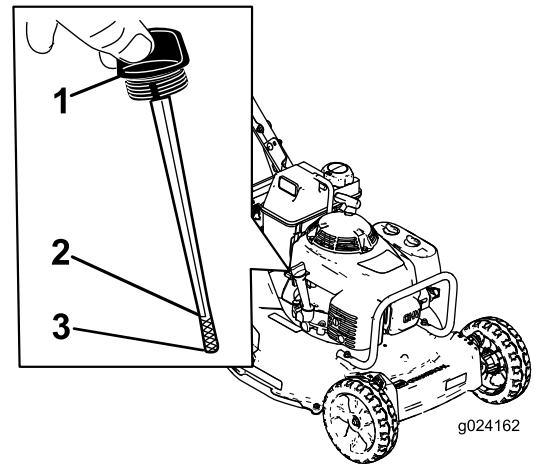

Figure 6
Before each use, ensure that the oil level is between the lower-limit and upper-limit marks on the dipstick (Figure 6).
- Clean around the dipstick (Figure 6).